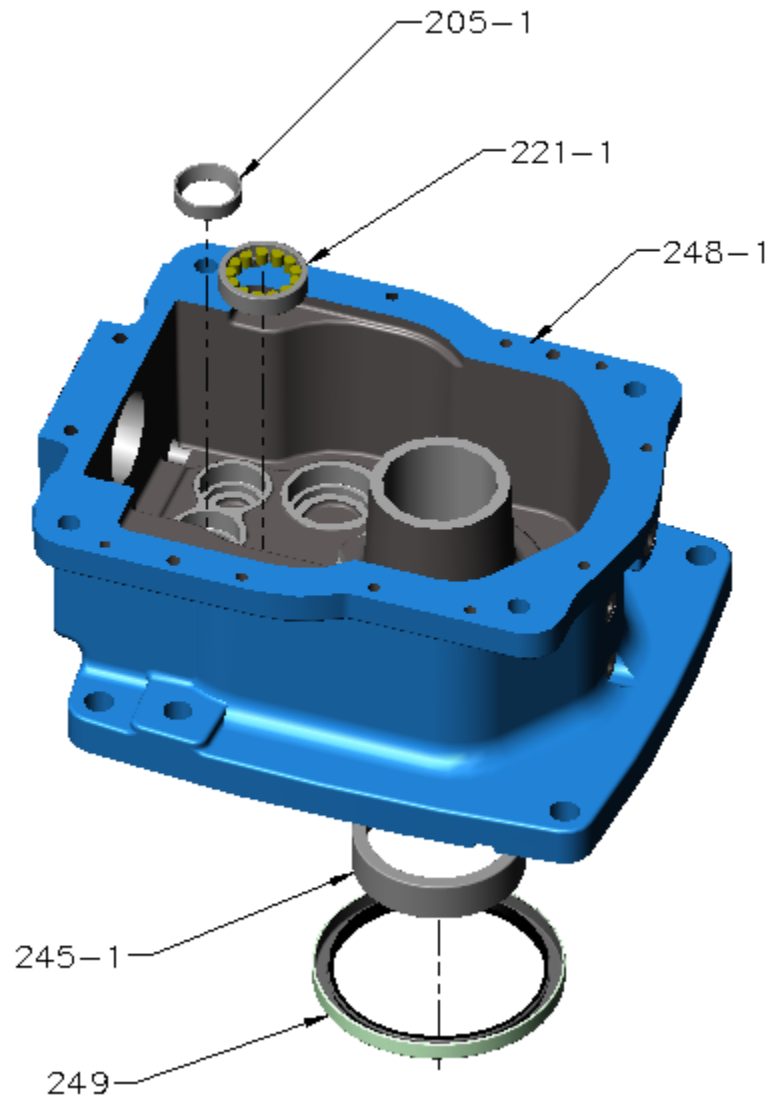

Figure 12 – Bottom Case
Q. At bottom case [248-1], remove following items (refer Figure 12):